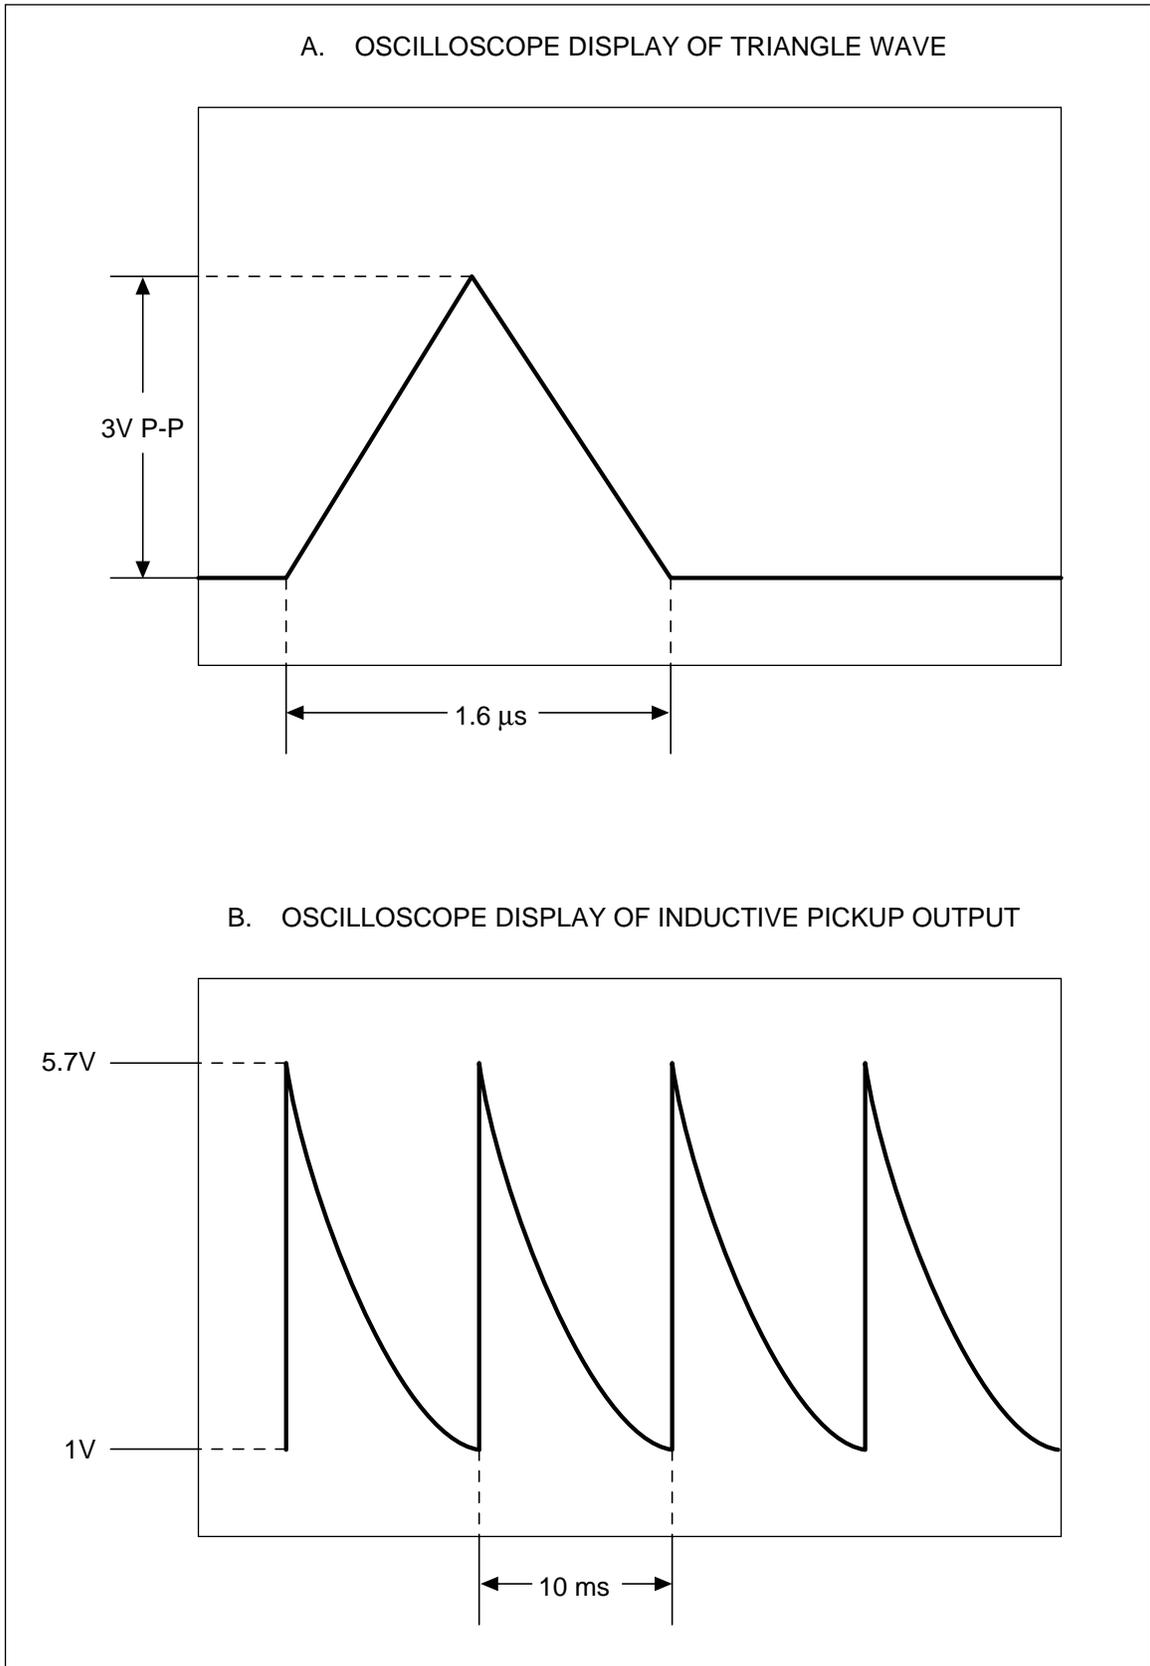

Figure 3-5. Typical Waveforms for Inductive Pickup Test
8. Trigger channel 2 on the triangle waveform. Adjust the amplitude of the Function Generator for an output of 3 V peak. See Figure 3-5.
11. Check that the peak voltage is greater than 5.5 V and decays to less than 1.0 V between pulses. See Figure 3-5.